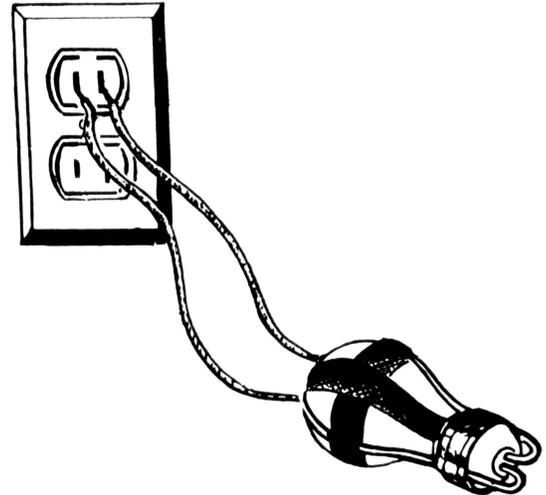

Fig. 3
2. Show how to test a convenience outlet to see whether it is "hot" (Fig. 3 and 4). Tell how the test lamp glows brightly on 240-volt and dimly on 120-volt circuits.